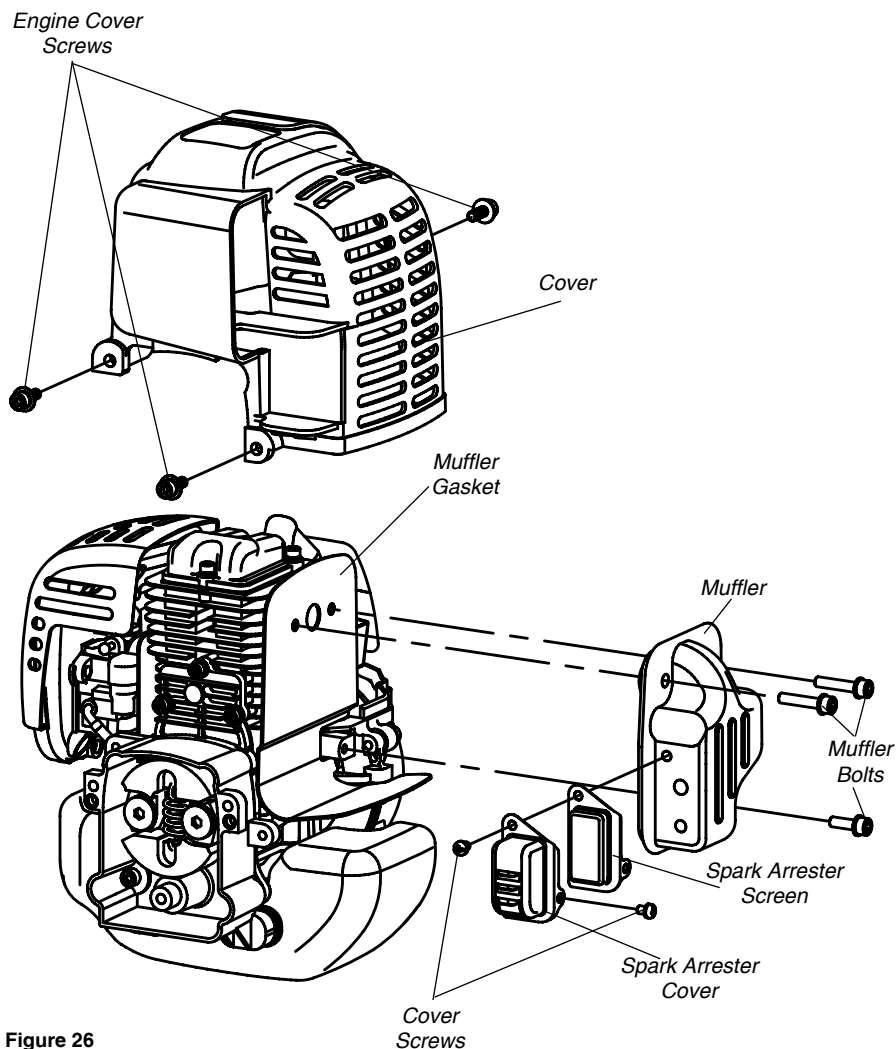

Figure 26
1. With a 4 mm hex wrench remove the 3 engine cover screws and the engine cover. See Figure 26.
2. With a 4 mm hex wrench remove the 3 muffler bolts and the muffler. See Figure 26.
3. With a small screwdriver remove the 2 screws holding the spark arrester screen and cover to the muffler. See Figure 26.